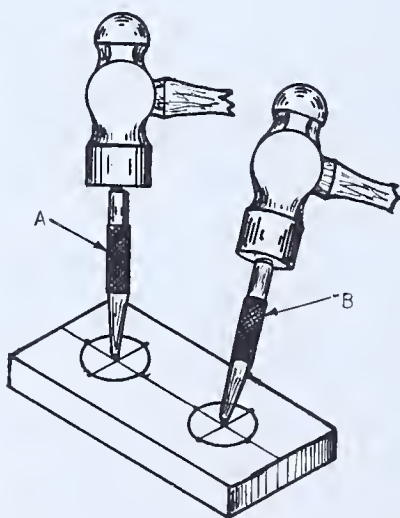

FIG. 28 —
securely when the blow is struck. If the punch is allowed to slip when struck, it may fly and hurt someone. Strike the punch and not the fingers or hand. See Fig. 28 for the correct position of the punch for making a center-punch mark or a prick-punch mark. The illustration also shows how to "draw" a center-punch mark when it is slightly "off center".
2. Hold the center punch square with the work. See Fig. 28 at *A*.